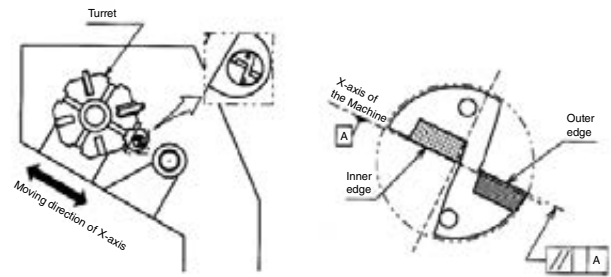
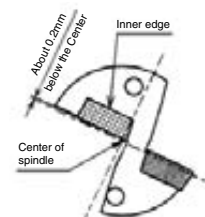

Fig.1 Installed to the Lathe
Fig.5 Front View
- (1) Adjust the scale at the flange periphery of the sleeve to the center of the coolant plug of the drill. (Fig.1)
- (2) When making the hole diameter bigger, rotate the sleeve in (+) direction and to make it smaller, rotate the sleeve in (-) direction.
- (3) When rotating the sleeve, insert the wrench supplied with the drill into the hole on the flange periphery to rotate the sleeve.
- (4) Using the bottom screw of the side-lock arbor, firmly tighten on the drill directly through the sleeve's window.
- (2) It is recommended to set the outer insert as shown in Fig.1 with the outer insert facing the operator. (Fig.1)
When installing inner insert as shown in Fig.1, it will be set around 0.2mm below the Center of Spindle. (Fig.5)